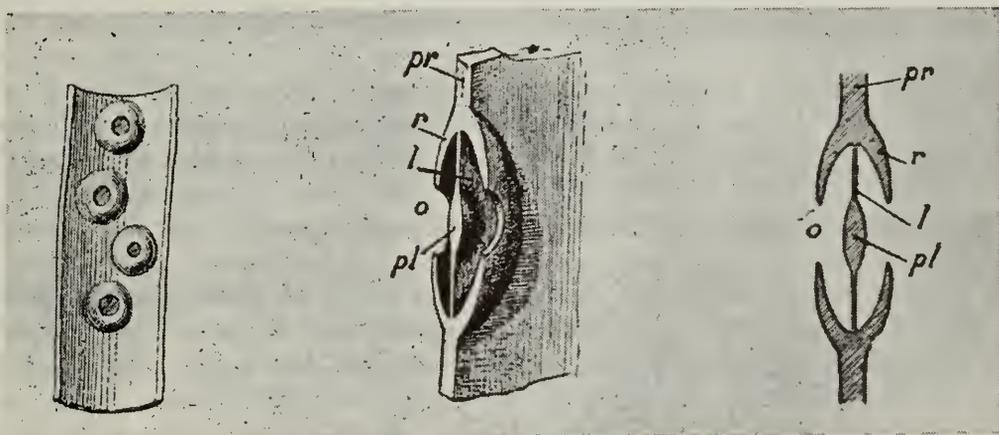

Fig. 3
F. E. Morton: “Yes, as I will show you. There is a picture of this little diaphragm and the air space around it. That little sounding board has a minute chamber on either side of it. This is magnified 650,000 times. Just to what extent that enters into the function of the sounding board, I don’t know whether any one has determined. But the fact remains, where a board is treated in such a manner as to rupture the diaphragm it is not as satisfactory a board.” (Fig. 3.)